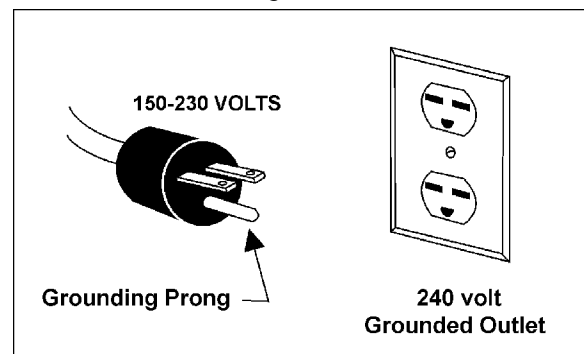

Figure 24
3. The 115V attachment plug supplied with the band saw must be replaced with a UL/CSA listed plug suitable for 230V operation, as shown in Figure 24. Contact your local authorized JET service center or qualified
4. The band saw with a 230 volt plug should only be connected to an outlet having the same configuration (Figure 24). No adapter is available or should be used with the 230 volt plug.